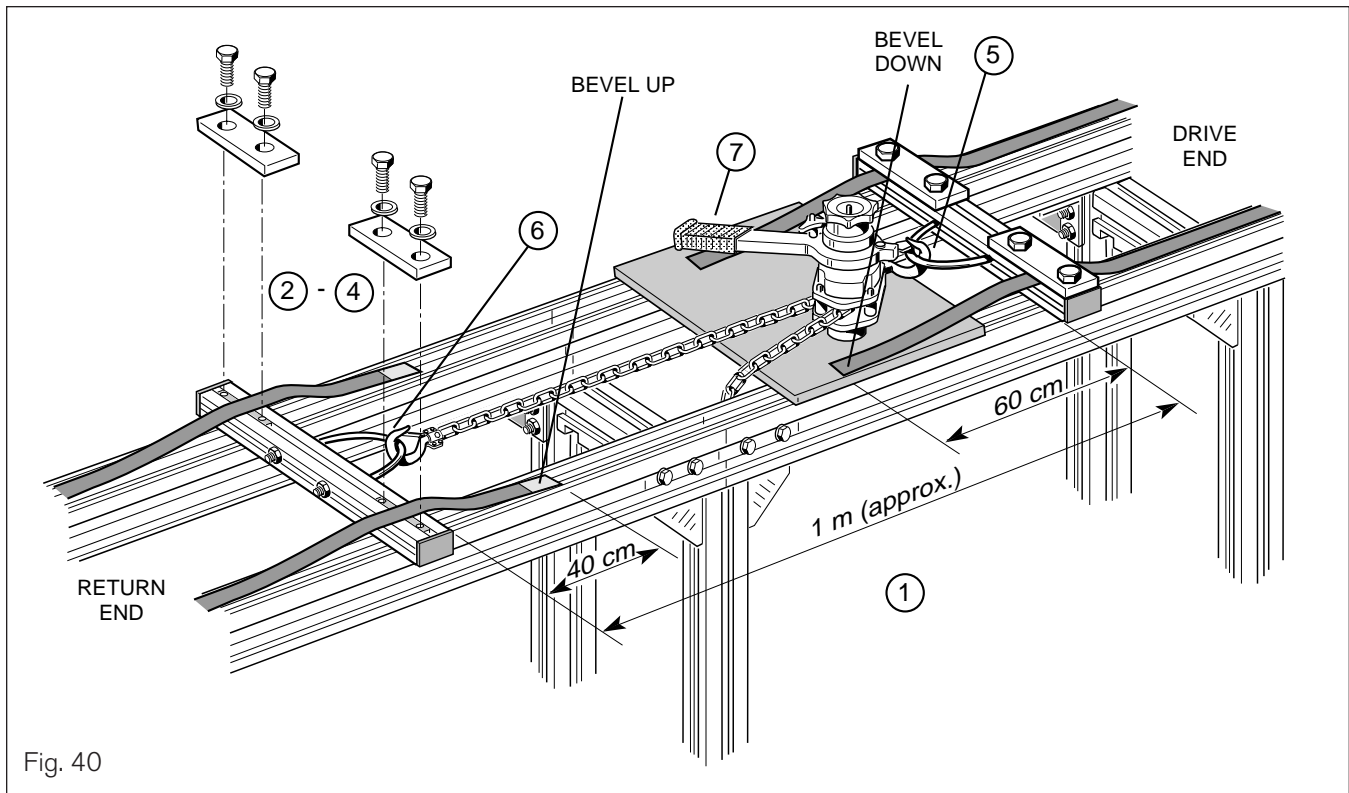

Fig. 40
- 1 Place the belt clamps about one meter apart on the center of the conveyor section, with the metal rings facing toward each other as shown in Fig. 40.